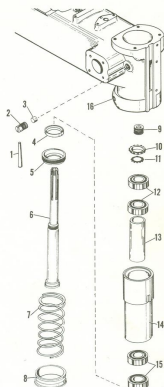

Figure 22. Spindle Assembly
56. SPINDLE BEARINGS (figure 22)
4. Remove spindle (6) and press lower bearings (15) out from top and upper bearings out from bottom of quill using the spacer.
57. INSTALLING SPINDLE AND SPINDLE BEARINGS (figure 22)